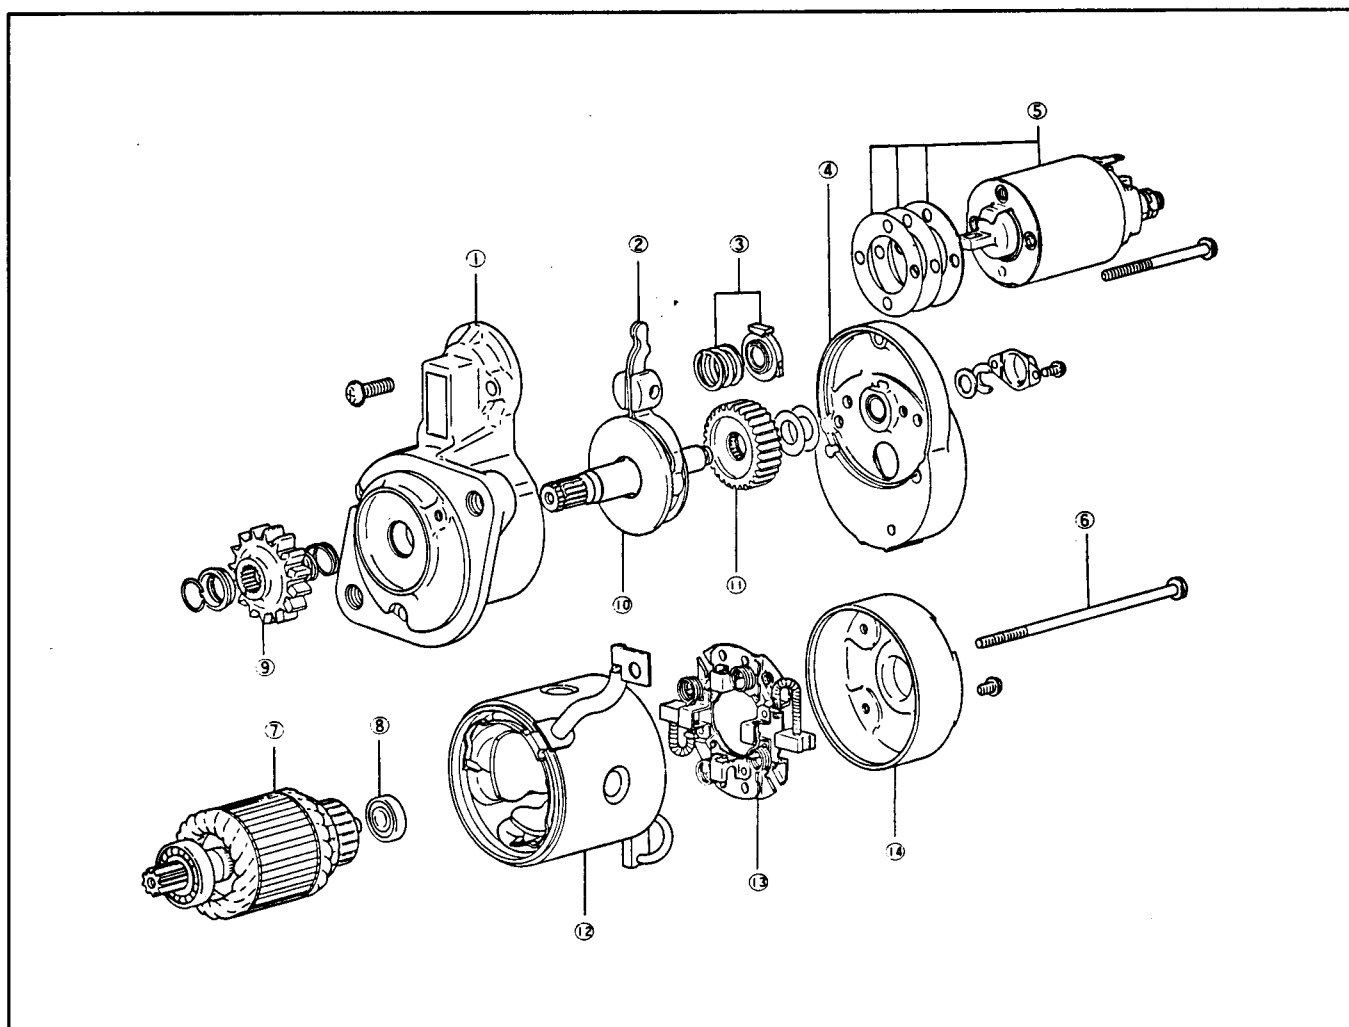

Figure 28
3. Loosen two screws securing the magnetic switch (Fig. 28). Remove the magnetic switch.